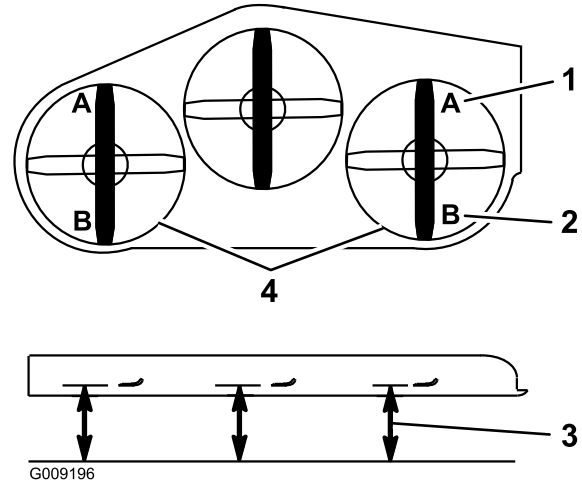

Figure 73
9. On both sides of the deck, measure from the level surface to the front tip of the blade (Position A) as shown in Figure 73.
16. On both sides of the deck, measure from the level surface to the back tip of the blade (position B) as shown in Figure 73.